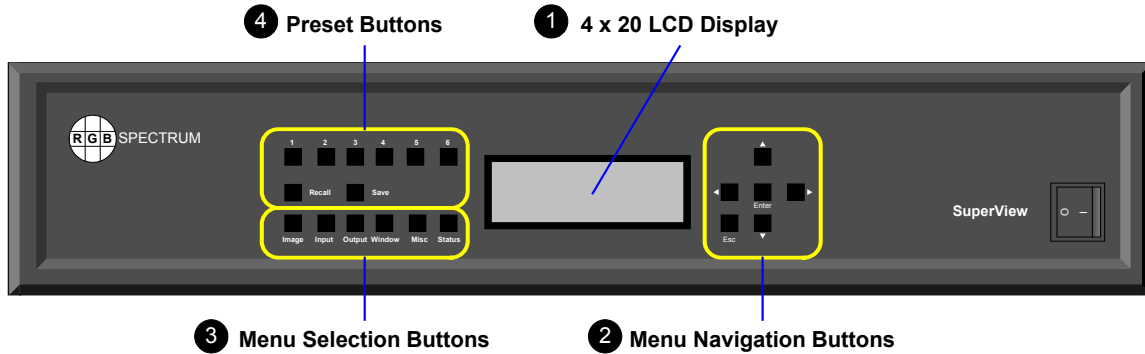

Figure 2. SV 3000 Front Panel
A view of the front panel is shown in **Figure 2** below. The front panel consists of a four line LCD (1), menu navigation buttons (2), Menu Selection buttons (3) and Preset buttons (4). **Note** The Preset buttons provide the dual function of selecting Preset registers for storing and recalling set ups, as well as selecting inputs for adjustment on the front panel display.
The menu navigation controls (**Figure 2 (2)**), are located to the right of the display. A group of 4 cursor keys provides up/down and left/right control of the cursor on the display screen. An ENTER key is located at the center of the cursor keys, and an ESCAPE key is located at the lower left edge of the group of buttons.
The 4 x 20 LCD is located centrally on the front panel (**Figure 2 (1)**). The top row of each menu page is the menu title. As shown in **Figure 3**, there are six menus at the top of the menu structure. Each menu can be selected directly by pressing the associated menu selection button (**Figure 2 (3)**).
Press the **OUTPUT** Menu Selection button (**Figure 2(3)**) to enter the Output menu. The first entry in the menu is **LOAD HOST TIMING**. There are 64 sets of timing parameters.
Press the **WINDOW** button located in the Menu Select button section (**Figure 2 (3)**), and select **Window Enable** function (**Figure 8**). Each window must be disabled individually which is accomplished by selecting the input channel using the **PRESET** button associated with the input, and then disabling the window from the **Window Enable** menu.. For example to disable window 2 press **PRESET** button 2, select **Window Enable OFF** and press **ENTER**. Repeat this process for all windows.